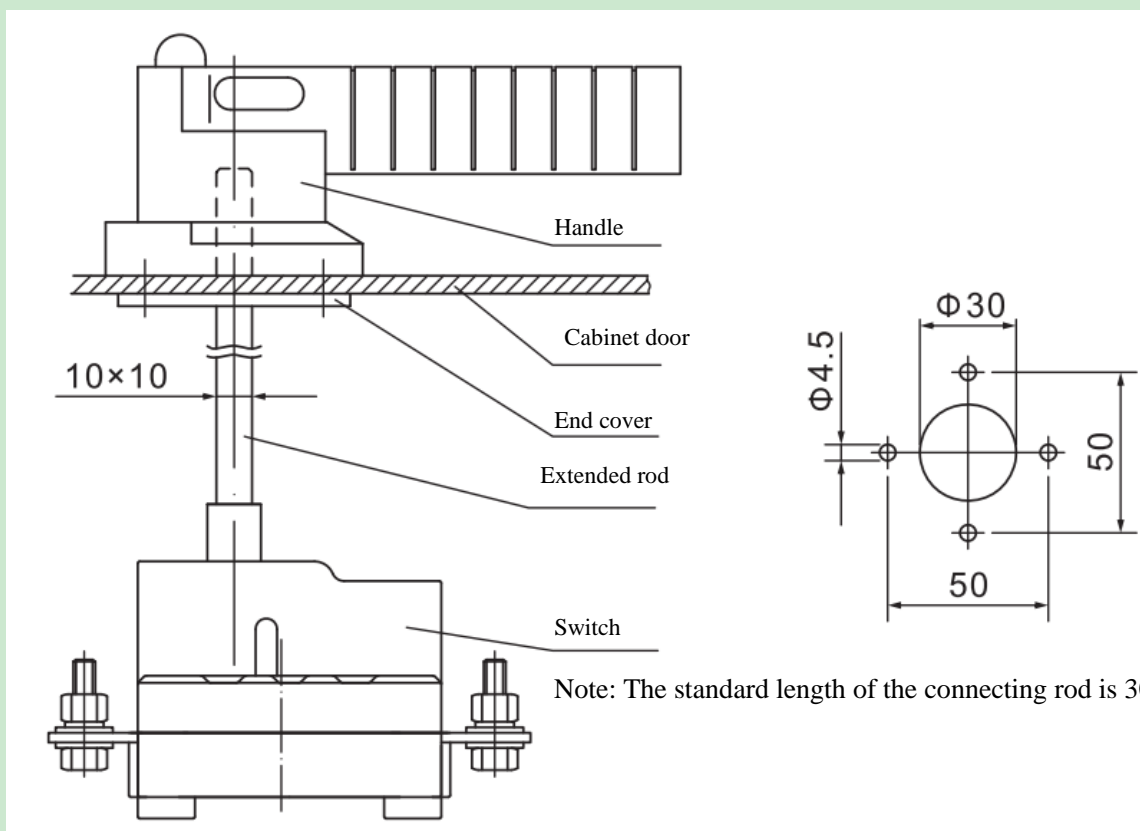

Fig. 10: Size of hole on the panel of the handle outside cabinet
6.6 The operating handle outside the cabinet is illustrated in Fig. 10